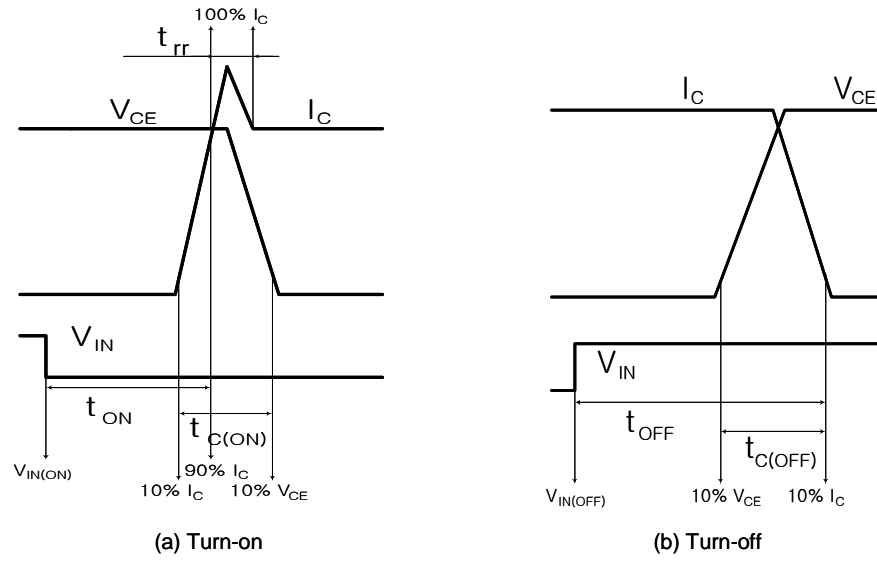

Fig. 4. Switching Time Definition
2. t_{ON} and t_{OFF} include the propagation delay time of the internal drive IC. $t_{C(ON)}$ and $t_{C(OFF)}$ are the switching time of IGBT itself under the given gate driving condition internally. For the detailed information, please see Fig. 4.